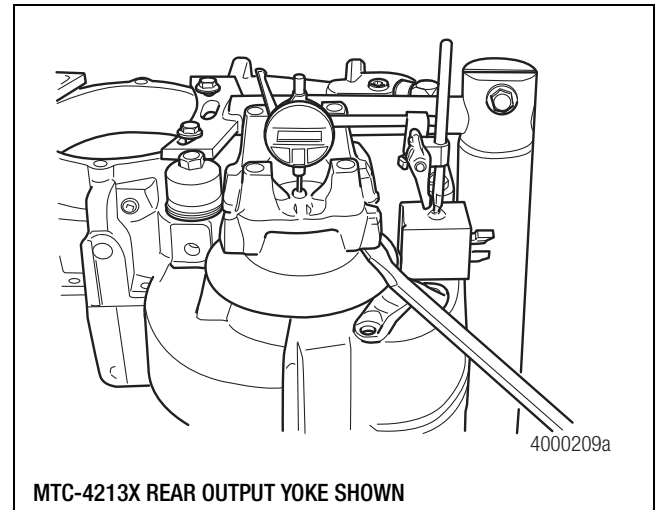
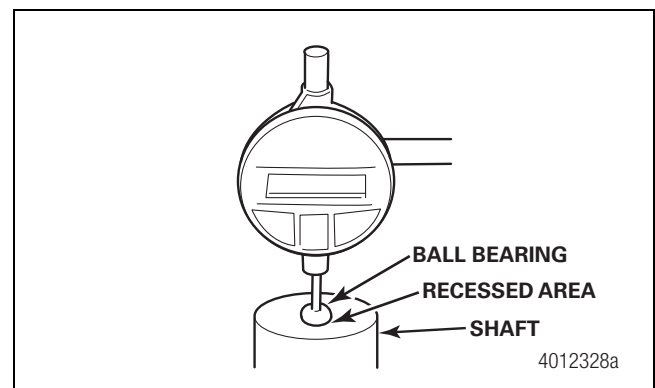
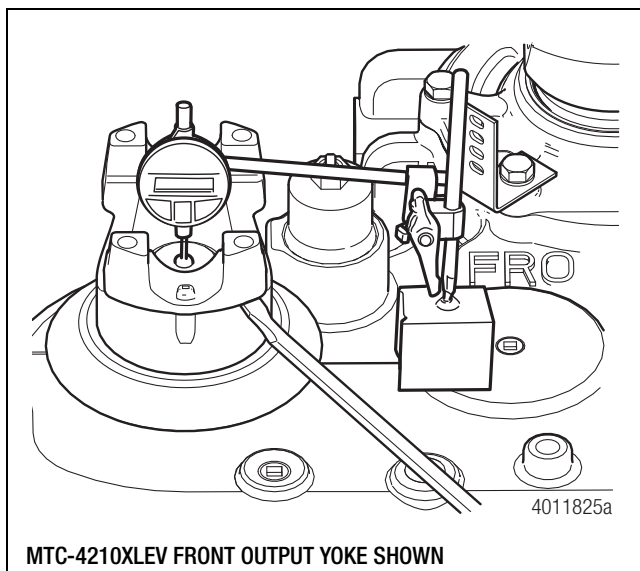

Figure 6.22
Figure 6.23
Figure 6.24
3. Use a dial indicator to check output shaft bearing end play. Center the dial indicator over the shaft. **NOTE:** For accuracy, place a ball bearing into the recess found on the end of the shaft, then place the tip of the dial indicator on top of the ball bearing. Figure 6.22 and Figure 6.23.
3. Set up a dial indicator to check the output shaft bearing end play. Center the dial indicator over the shaft. NOTE: For accuracy, place a ball bearing into the recess found on the end of the shaft, then place the tip of the dial indicator on top of the ball bearing. Figure 6.23 and Figure 6.24.